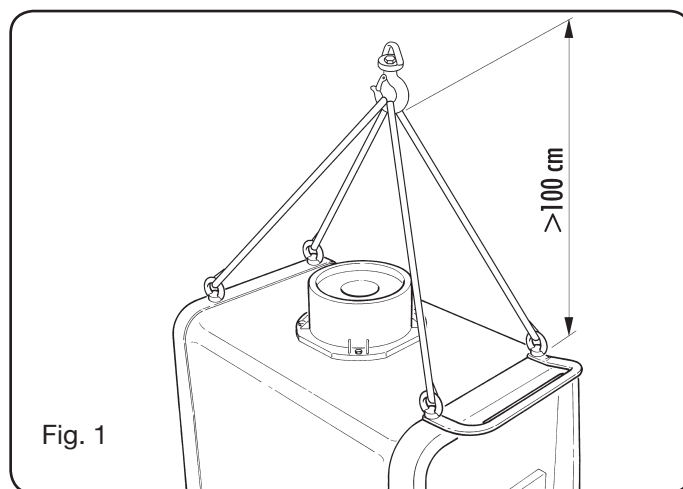

Fig. 1
3.1 LIFTING MECHANISM (FIG. 1).